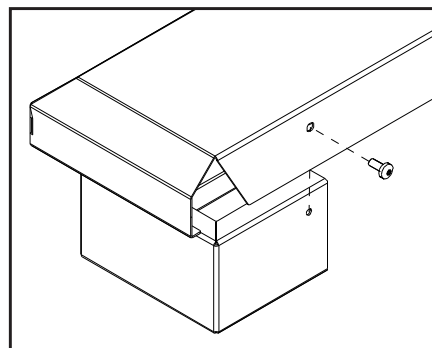

Figure 30b: Installing Base Shelf onto Riser.
3. If installing with riser(s) the Base Shelf is to be fastened to the riser(s) with one T-20 screw at each end of the back (see Figure 30b).